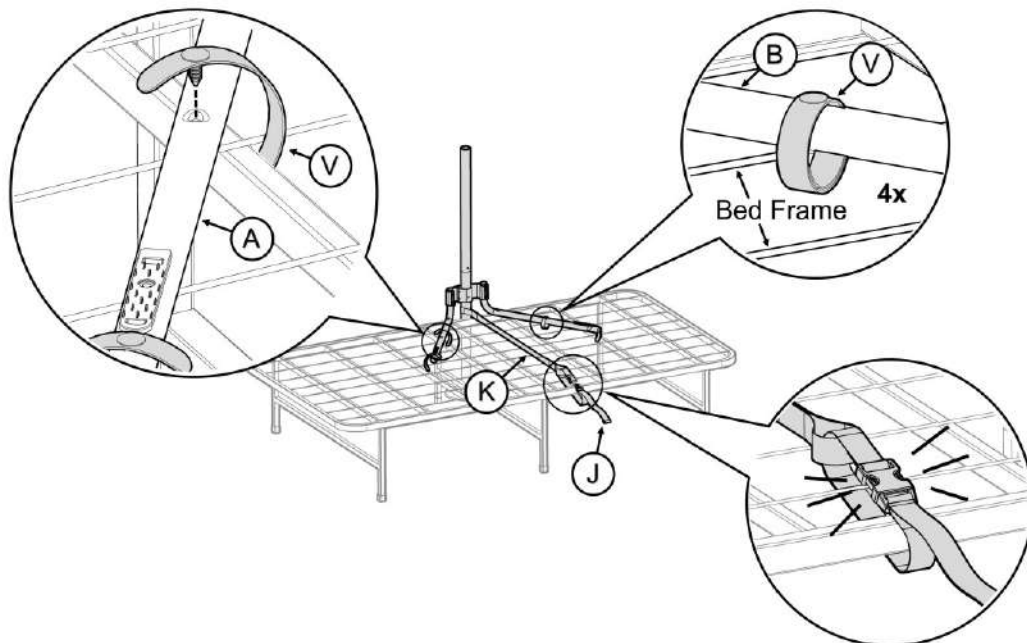

FIGURE 7
7. For metal frame beds and slat beds, add **V** to secure legs to frame or slats. Insert plastic barb from **V** into holes in **A** and **B** at locations shown. Wrap **V** securely around frame or slats. Open buckles on **J** and loop one buckle around bed frame and snap buckles back together. Tighten strap **J** by pulling loose end of strap. **FIGURE 7**